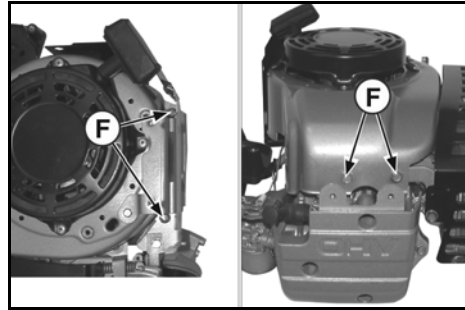
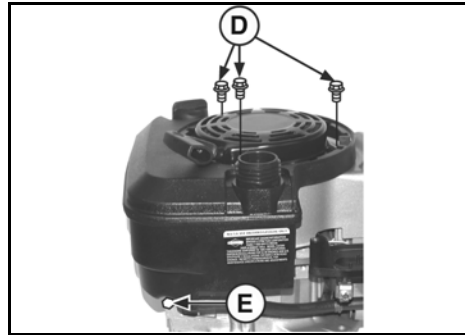

Figure 13
Figure 14
3. Disconnect the Choke-a-Matic® spring, if equipped, from choke lever (A, Figure 13, Figure 14).
1. Install the oil fill tube and dipstick. Install the screws (F, Figure 13) and blower housing.
2. Install screws (D, Figure 14) and spacer (E), then install tank from engine. Torque screws to values listed in Section 12 - Engine Specifications.